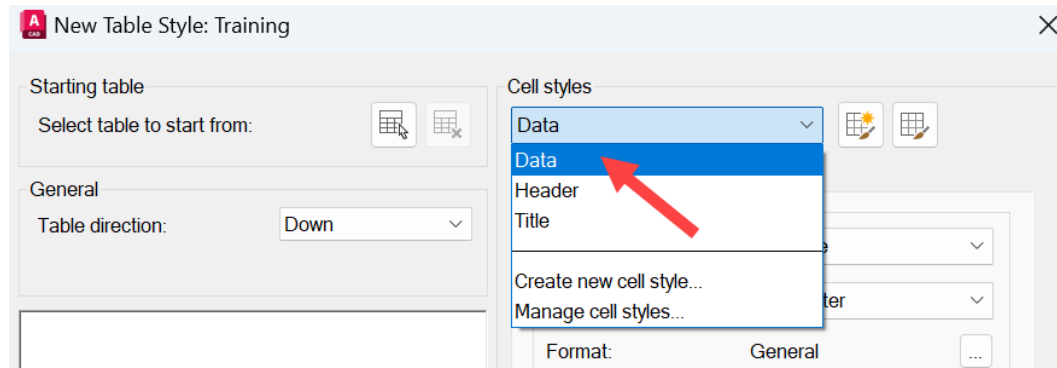

Figure 7.41: The Data cell style in the Cell style drop-down menu
19. Now, select the **Data** cell style in the **Cell styles** drop-down menu, as shown in *Figure 7.41*.